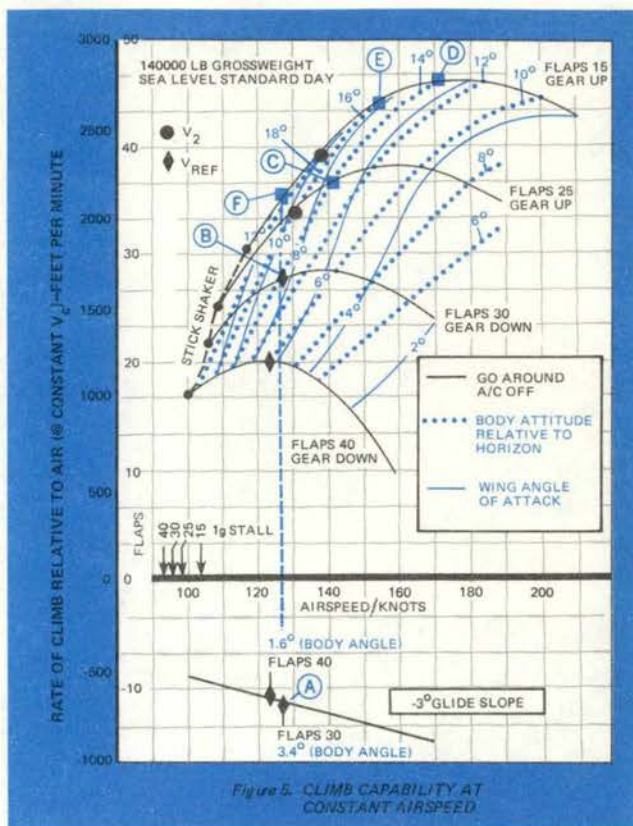

Figure 5. CLIMB CAPABILITY AT CONSTANT AIRSPEED
Rate-of-climb capability is shown in Figure 5 for flaps 40—gear down, flaps 30—gear down, flaps 25—gear up, and flaps 15—gear up. The location of  $V_{REF}$  for flaps 40 and flaps 30,  $V_2$  for flaps 25 and flaps 15, and the 1-g stall speed for flaps 15, 25, 30 and 40 have been shown for reference purposes.
Figure 5 will be used to emphasize points about angle of attack, airplane attitude, and flap retraction during wind shear encounters. If the airplane were on a 3° glide slope at 30° of flaps, the body attitude would be about 3.4° nose up at  $V_{REF}$  speed (A). Figure 5 shows that if go-around is initiated using go-around thrust, and speed is held constant at  $V_{REF}$ , the attitude must be changed to 14° (B).
This is quite a change, but nevertheless, not an unusually high attitude. Figure 5 also shows that if the attitude is held constant at 14° and flaps are retracted from 30 to 25, the airplane will accelerate to about 140 knots (C) before stabilizing. If flaps are further reduced to 15 at that same 14° attitude, the airplane will accelerate to 170 knots (D) before stabilizing. All of those speeds are reasonable for the flap positions selected. In fact, the 14° attitude will take the airplane to maximum rate-of-climb speed at flaps 15—gear up. Now holding a constant attitude will, as previously stated, program in an acceleration. Based upon the previous discussion on what
The question "Why all of this emphasis on attitude when what we really need is an angle-of-attack indicator?" has been asked many times. Most airliners do not have angle-of-attack indicators but they do have good artificial horizons' that is why attitude has been emphasized. However, by using Figure 5, it is possible to evaluate the angle-of-attack situation when flying in the conditions just discussed. It can be seen that the angle of attack that goes along with  $V_{REF}$  at flaps 30, about 8.4°. Obviously, then, there wouldn't be any difference in angle of attack flying on a 3° glide slope or whether maximum go-around thrust had been applied.